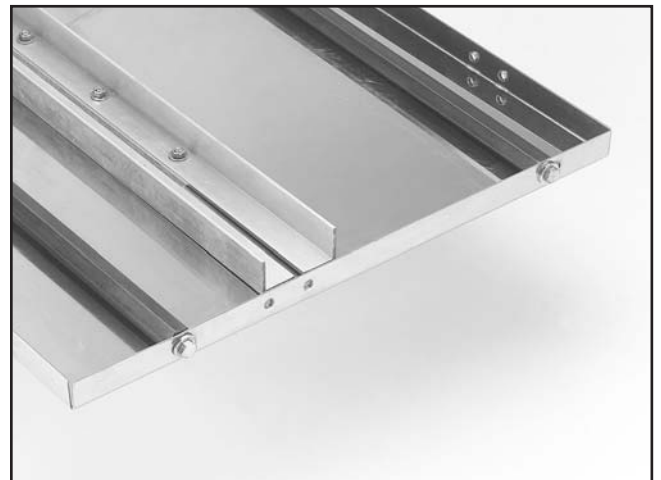

Figure 21. Installing rails on table.
1. Secure one end of each rail to the underside of the sliding table as shown in **Figure 21**. Note—Secure the rail ends to the closed side of the sliding table.